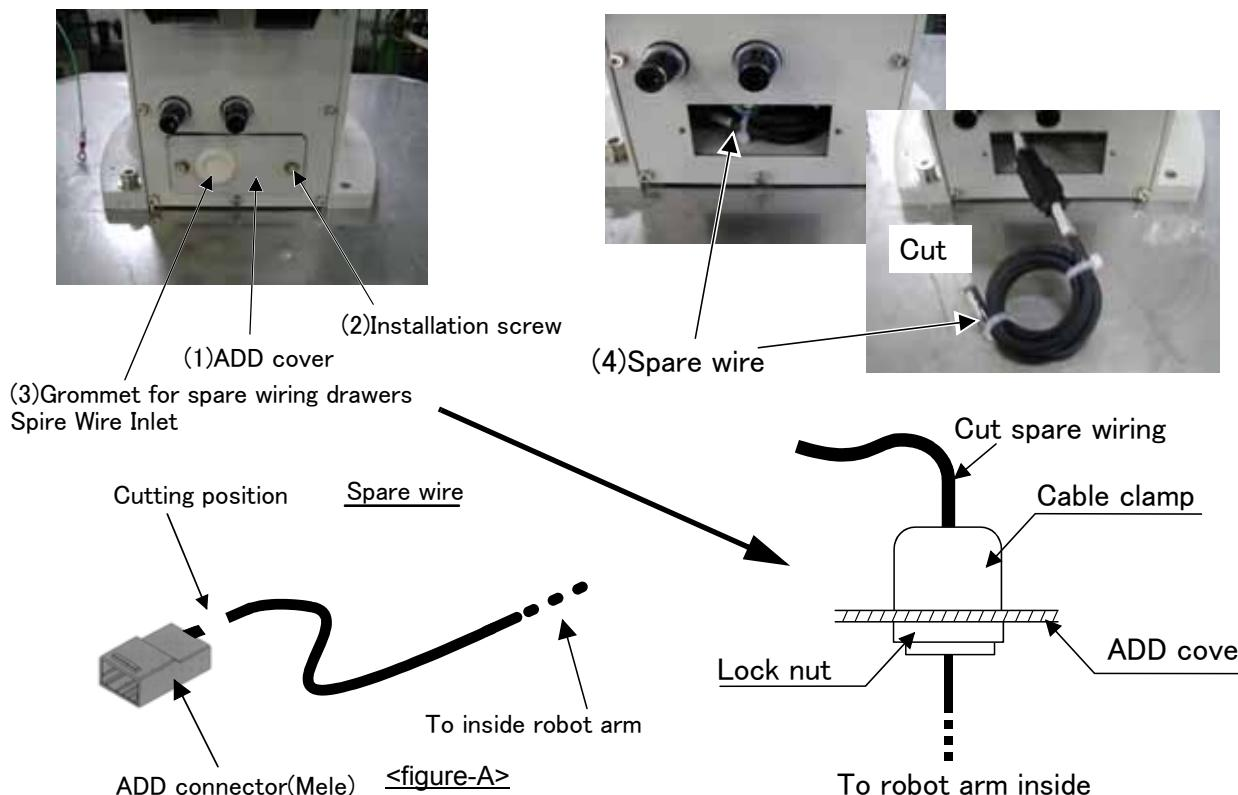

Fig.2-10 : Pull out spare wiring(Base area)
- 2) Remove (1)ADD cover with reference to the Page 58, "5.3.2 Installing/removing the cover".
- 5) Cut spare wiring near the connector (from the connector end to the about 10–20mm. Refer to figure-A in Fig. 2-10)